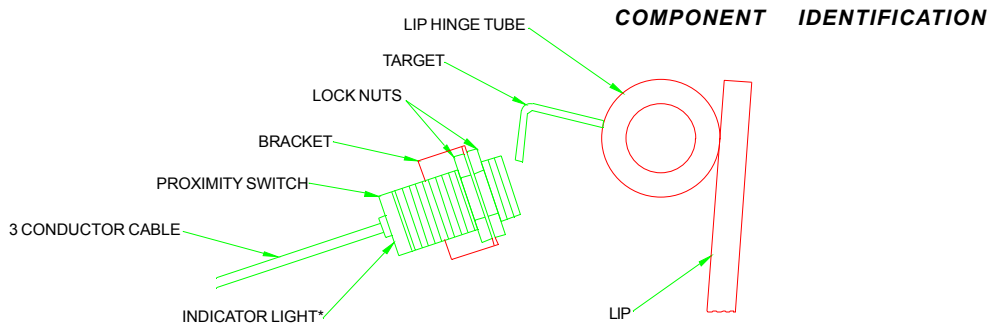

Figure 13
Your dock leveler may be equipped with Auto Return to Dock. Auto Return to Dock is an operation available on VEH Series dock levelers that will automatically reposition the dock leveler into the stored, cross traffic position after the truck departs. This option utilizes a switch under the dock leveler and a target fastened to the lip. See Figure 13.
* Figure 13 shows the indicator light at the back end of the housing. Some switches have the light in the side of the housing.
1. Lubricate the unit as shown in figure 13. Failure to properly lubricate the unit will cause abnormal operation of the unit.